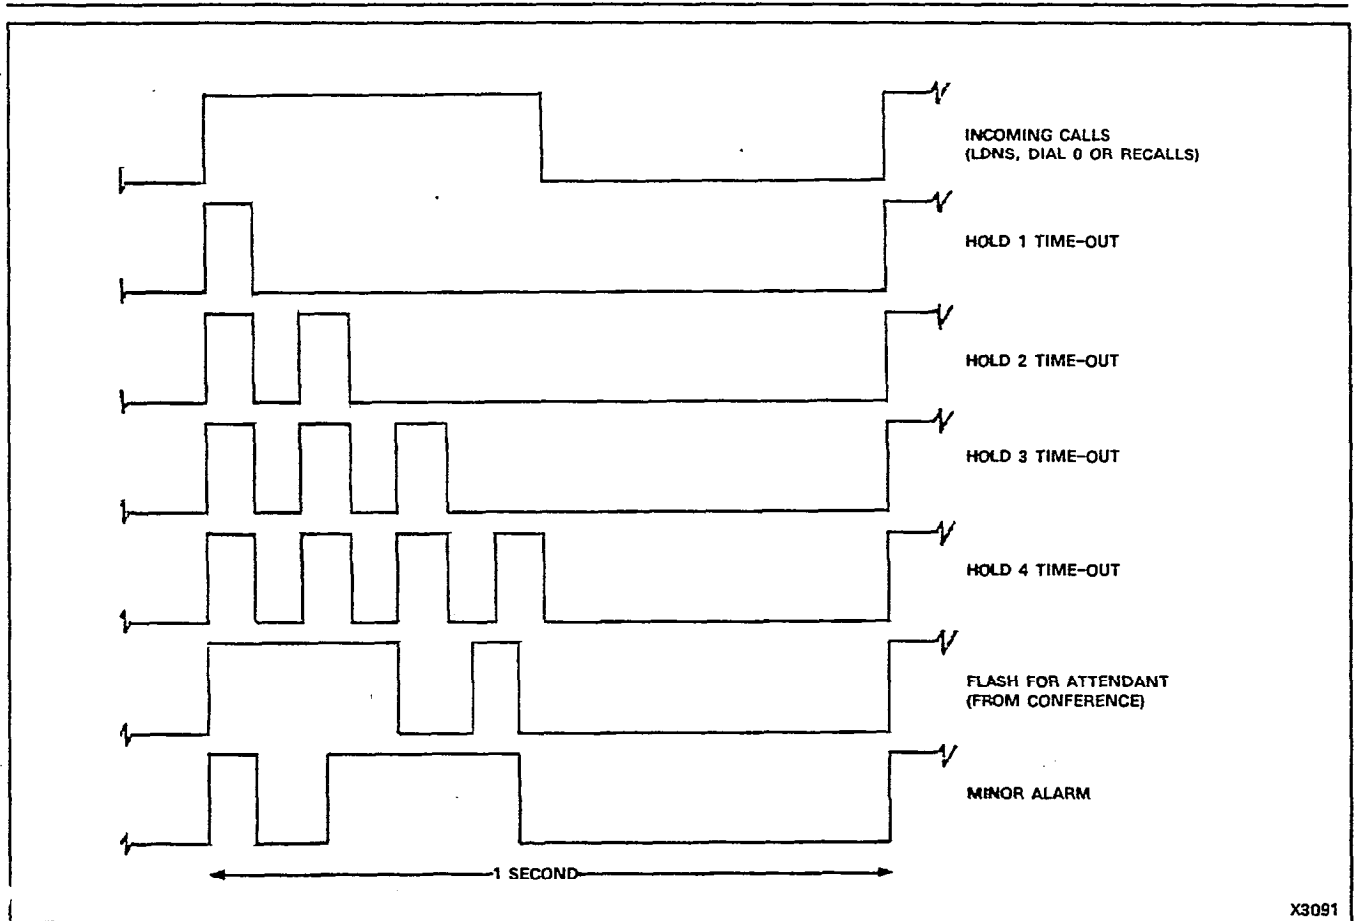

Figure 4-6 Audible Tone Signal Cadences
4.35 For use by a visually impaired attendant, all events requiring attendant recognition are placed in a queue and give an audible signal on a first-in, first-out basis. In the case of the first situation (LDNs, DIAL 0 or RECALL), the same audible signal is given indicating that the call can be answered with the ANSWER button. To find the actual button, the visually impaired operator can poll the keyboard (refer to paragraph 4.36). The remaining events have distinctive audible signals and may be readily associated with the relevant button. Figure 4-6 illustrates these tone cadences; each of which has a period of one second.